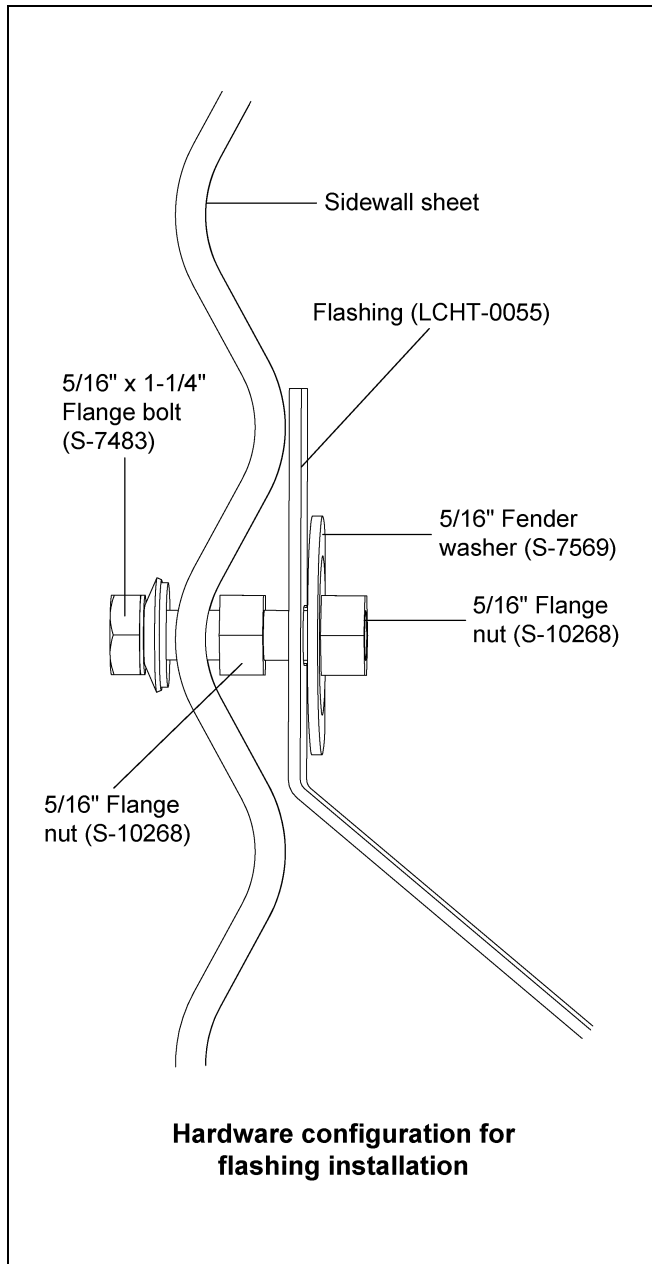

Figure 14A Flashing Hardware
2. Attach left side of the first piece of flashing to the sidewall using the connection as shown in Figure 14A. Working clockwise, overlap the flashing at the right hand hole of each piece of flashing. **NOTE:** *If bolts are installed at flashing seam location they will need to be removed.*